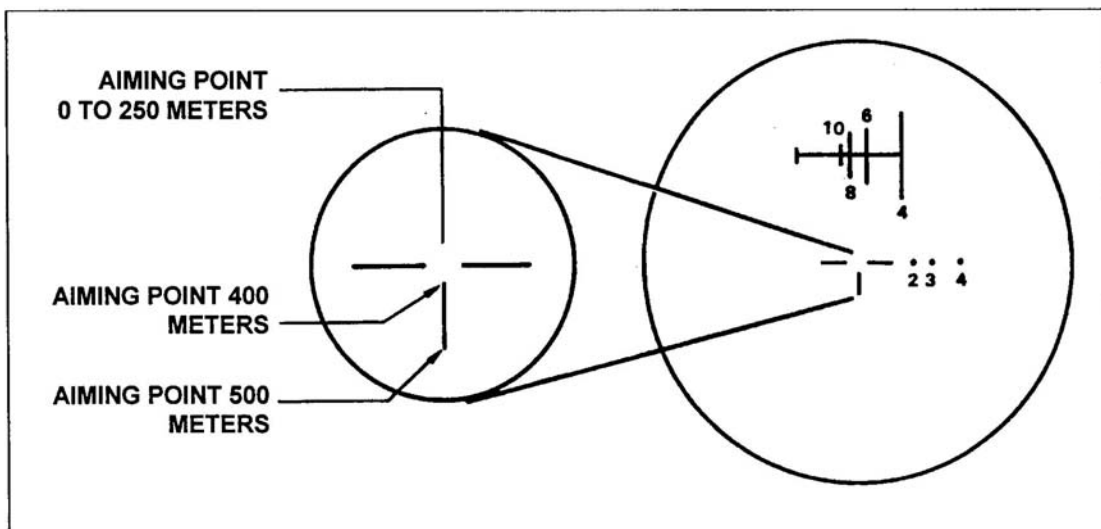
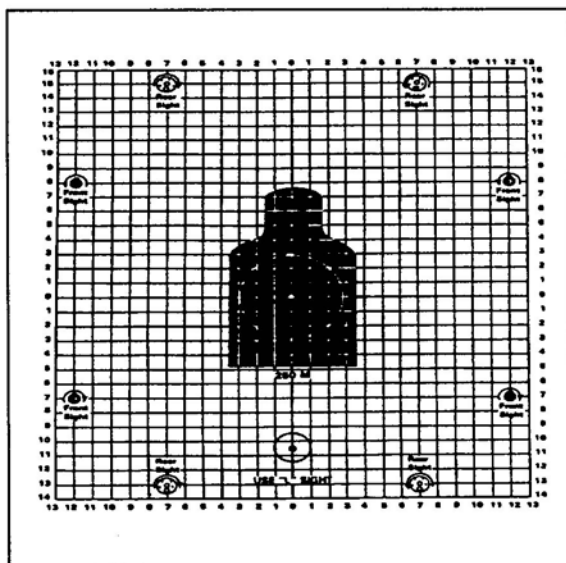
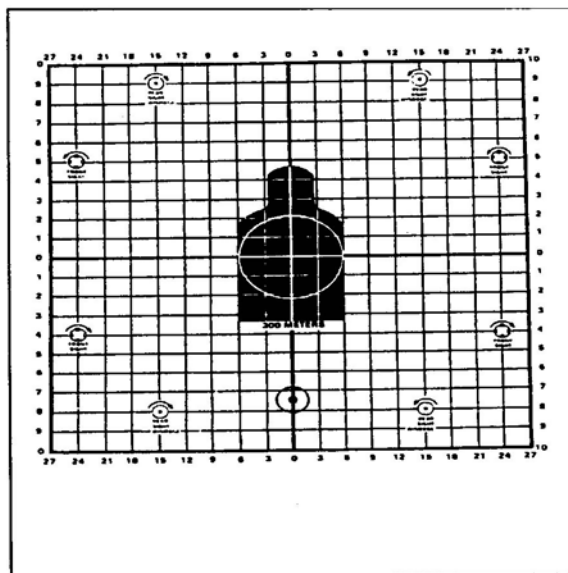

Figure 1. Zero aiming point.
Figure 2. M16A1 zeroing target.
Figure 3. M16A2 zeroing target.
5. Place the zeroing range aiming point of the reticle on the target aiming point; fire three rounds to obtain a good shot group (Figure 1). Use either the M16A1 25-meter zero target shown in Figure 2 or the M16A2 25-meter zeroing target shown in Figure 3. When zeroing the night vision sight, you can use either of these targets with either the M16A1 or M16A2 rifle. Use the marginal information on the target to adjust the sights on the rifle--not the night vision sight.
on the M16A2 target) directly below the target aiming point (Figures 2 and 3). Mark the reticle adjustment actuators to show the direction of round impact movement.
- b. On the M16A1 zero target, 1-1/2 squares equals 1 centimeter and 10 1/2 squares equals 7 centimeters (Figure 2). On the M16A2 zero target, each square is .9 centimeter and 7.8 squares equal 7 centimeters (Figure 3).